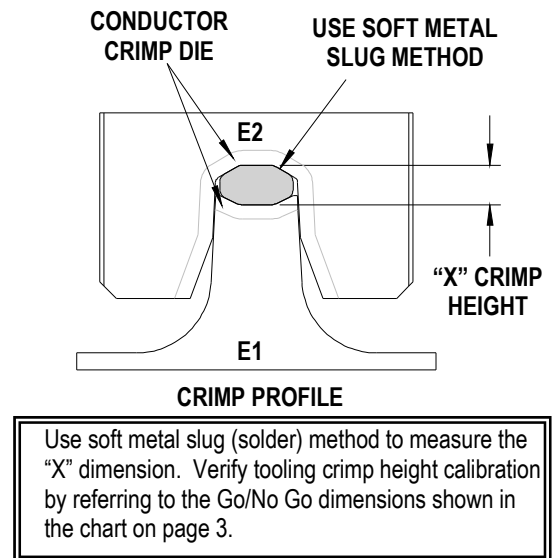

Figure 4
3. The recommended method of measuring the crimp height of the conductor dies is the soft metal slug method. See Figure 4.